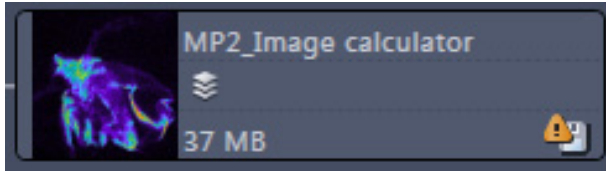

Fig. 7-11 Image with warning symbol
- In case the image is not saved or has been processed, a warning symbol is displayed on the right side (Fig. 7-11).